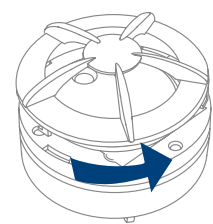
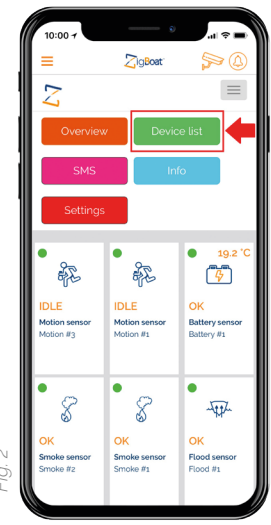

Fig. 1
Fig. 2
1. Open the ZigBoat™ App, select the Gateway in the ZB Gateways menu, wait a few seconds, and then select the menu button on the top right (fig. 1). Select "Device list" (fig. 2). Add the sensor by entering the serial number which is on the sensor's label (fig. 3). To find the serial number, remove the alarm cover and the inside plastic disc.